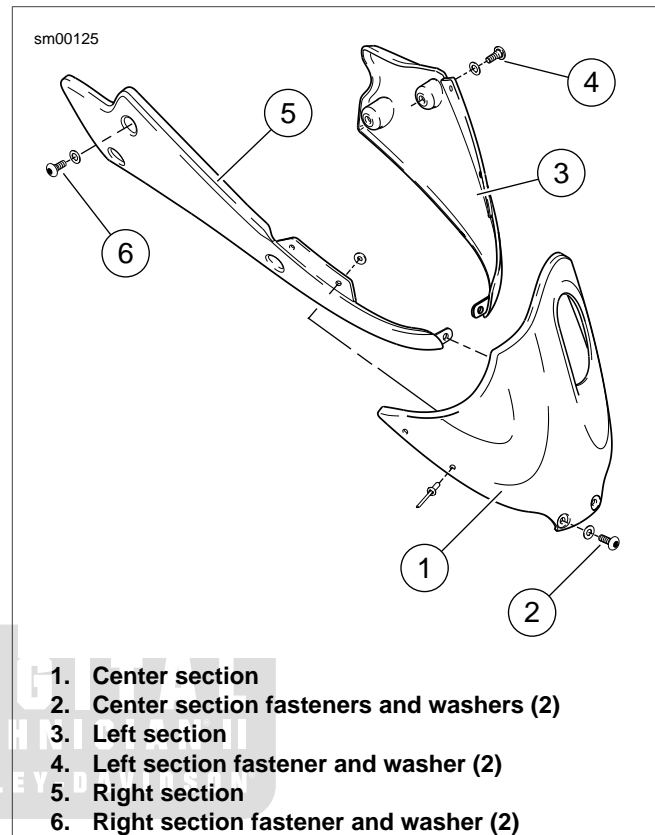

Figure 2-187. Chin Fairing
2. See Figure 2-187. Remove center section fasteners and washers (2).
3. Remove left section fasteners and washers (4).
4. Remove right section fasteners and washers (6).
2. See Figure 2-187. Position the assembled chin fairing and loosely install right side fasteners and washers (6).
3. Align center section (1) and loosely install center section fasteners and washers (2).